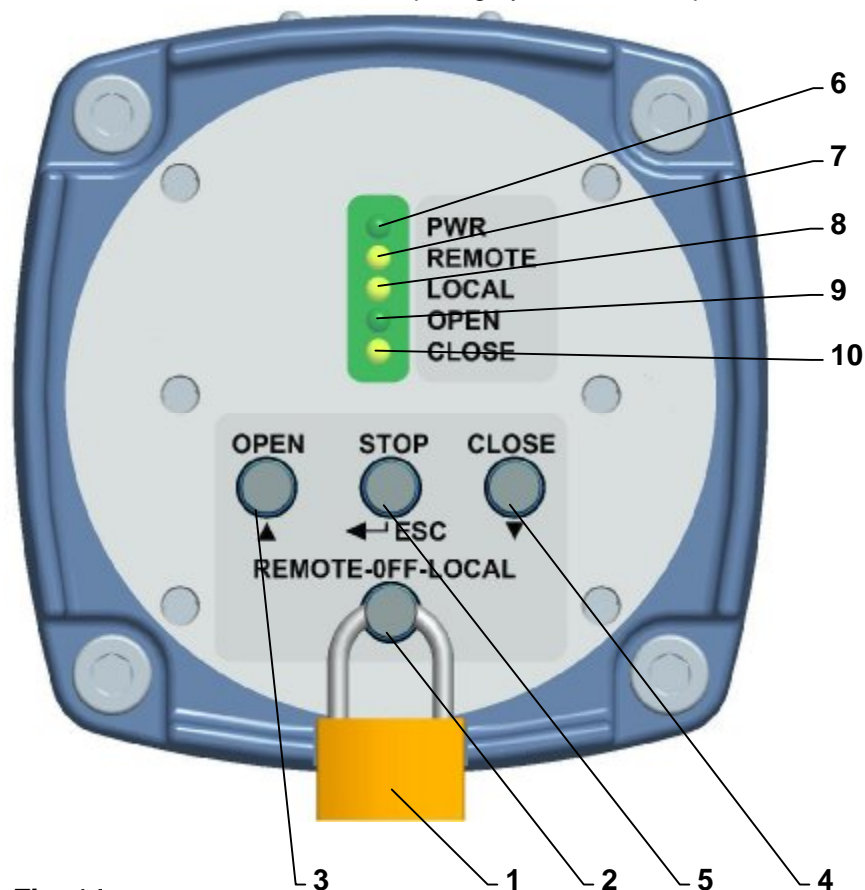

Fig. 14
4.8 Local electric control (Fig.14)